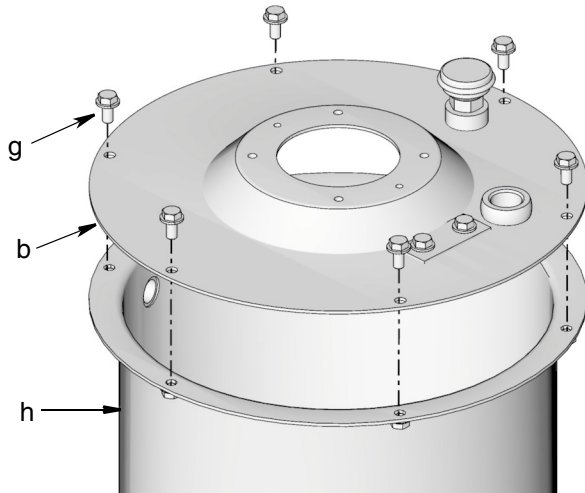

FIG. 5
7. Remove the screws (g) (holding the reservoir cover (b) to the reservoir (h)) (FIG. 5).